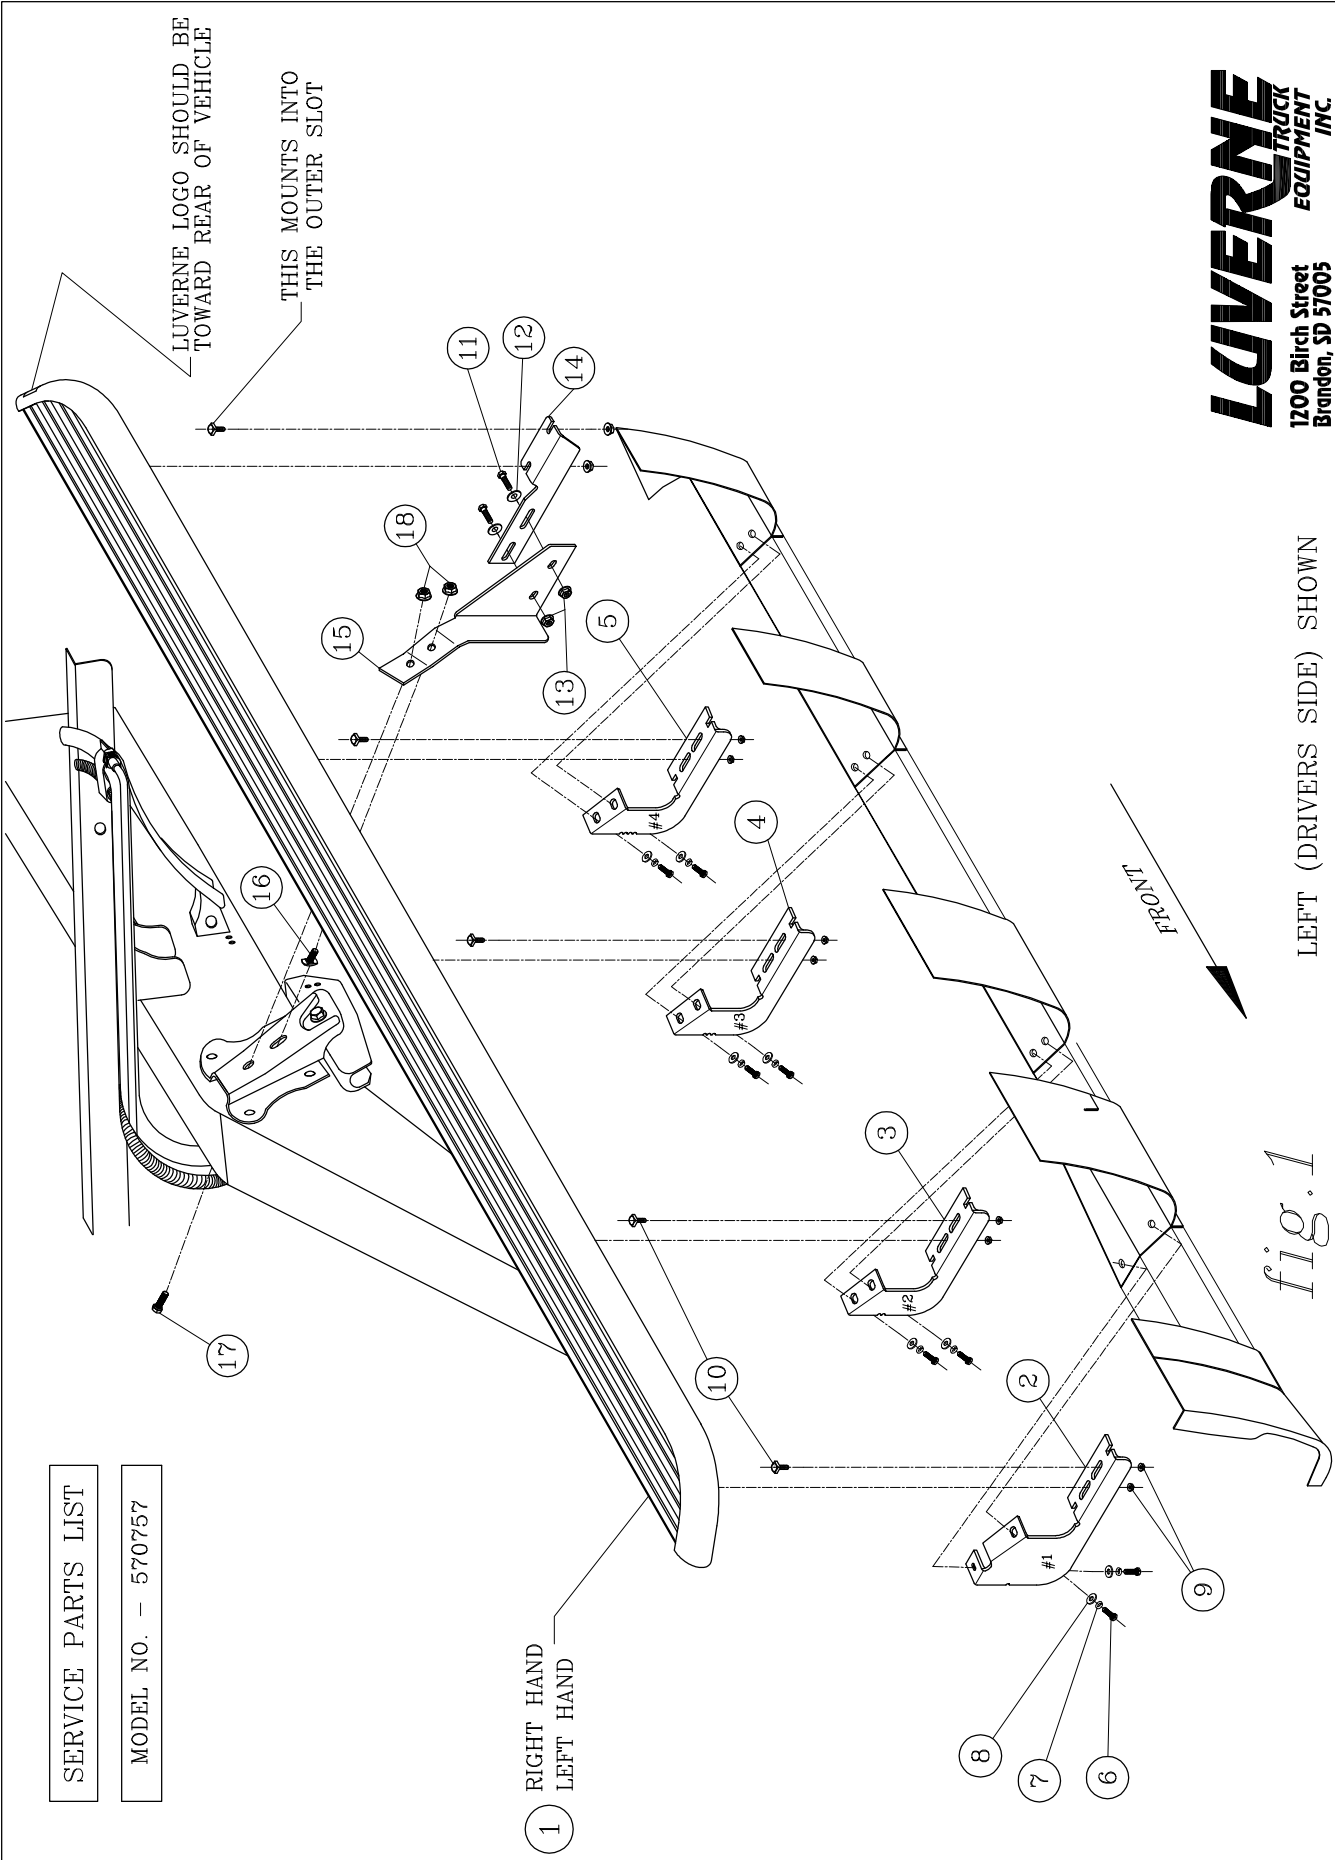

fig. 1
3. BEFORE ATTACHING THE O-MEGA STEPS TO THE BRACKETS, PLACE THE STEP PADS (ITEM #2) ON TOP OF THE STEP PLATES. USE THE TABLE ON SHEET #2, AS A GUIDE TO POSITION THE STEP PAD FOR YOUR PARTICULAR VEHICLE. WHEN INSTALLING THE PADS ON THE STEPS, DRILL (5) 1/8" HOLE USING THE STEP PAD AS A GUIDE. ATTACH WITH (5) 8-18X1/2" TEK SCREWS (ITEM #6) PROVIDED. REPEAT FOR ALL STEP PADS.
5. INSTALL THE END CAPS (ITEM #3) AS SHOWN IN *fig. 1*, TIGHTENING THE NUTS TO 5 LB FT.
2. ATTACH THE MOUNTING BRACKETS TO THE VEHICLE USING EXISTING MOUNTING HOLES ON THE INTERIOR WALL OF THE ROCKER PANEL. **(NOTE: THE BRACKETS MUST BE PLACE IN THE PROPER POSITION. THEY ARE IDENTIFIED WITH NOTCHES ON THE INBOARD EDGE. [1 NOTCH IS FOR #1 BRACKET, ETC.] #1 WILL BE AT THE FRONT OF THE VEHICLE. SEE FIG. 1).**